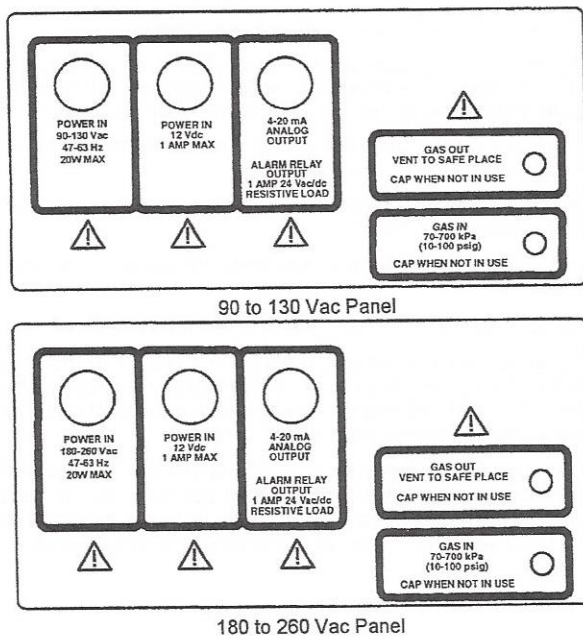

Figure 2-1. Rear Panel
2. If used, feed the recorder and/or alarm wires through the 4-20 mA ANALOG OUTPUT gland (figure 2-1); connect the analog output wires to JP1-1 (+) and -2 (-) on the display board; connect the alarm wires to JP1-4 (NC), -5 (COM), and -6 (NO) (figure 2-2).